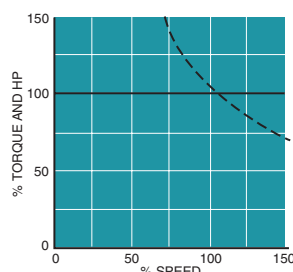

Figure 21. Constant Horsepower
2. Constant Horsepower (Figure 21)